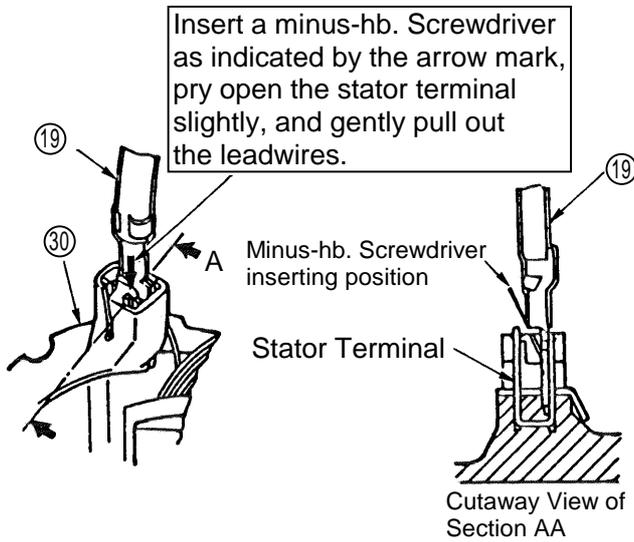

Fig. 8
- After removing Pulley (B) (24) with a bearing puller (the J-30 Bearing Puller is recommended), tap gently on the end surface of the spindle of the Cutter Block (13) to loosen and remove the Cutter Block from the End Bracket (26).
(4) Removal of the Stator: (Figs. 8 & 9)
- As illustrated in Fig. 8, use a slender minus-head screwdriver to disconnect the two Internal Wires (A) ⑱ and, on applicable models, the red and gray leadwires from the Noise Suppressor ④⑥ from the Stator ③⑩.
(6) Wiring and Leadwire Arrangements: (Figs. 8, 16 & 17)
Ensure that the Internal Wires (A) (19) and the red and grey leadwires of the Noise Suppressor (46) (when applicable) are inserted fully into the terminals of the Stator (30), as illustrated in Fig. 8.